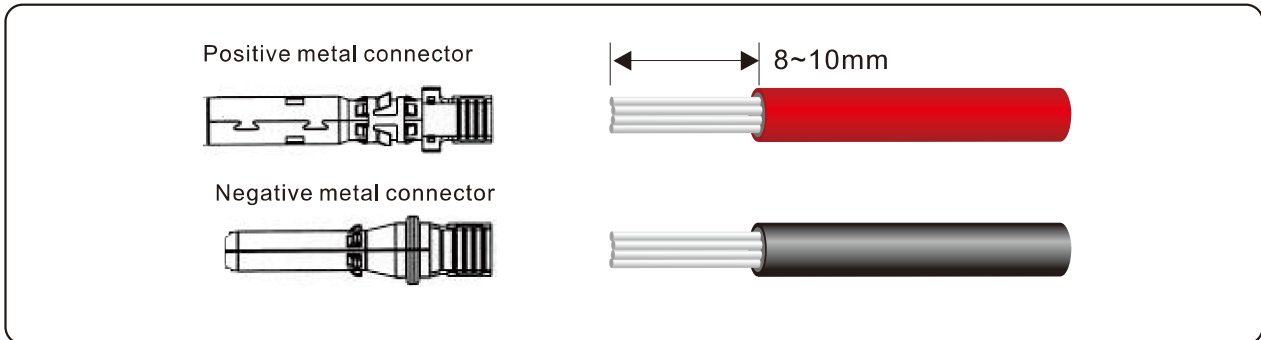

Figure 5.11 Removing insulation layer for DC cable (unit: mm)
**Step 1** Remove an appropriate length of the insulation layer from the positive and negative power cables by using a wire stripper, as shown in Figure 5.11.